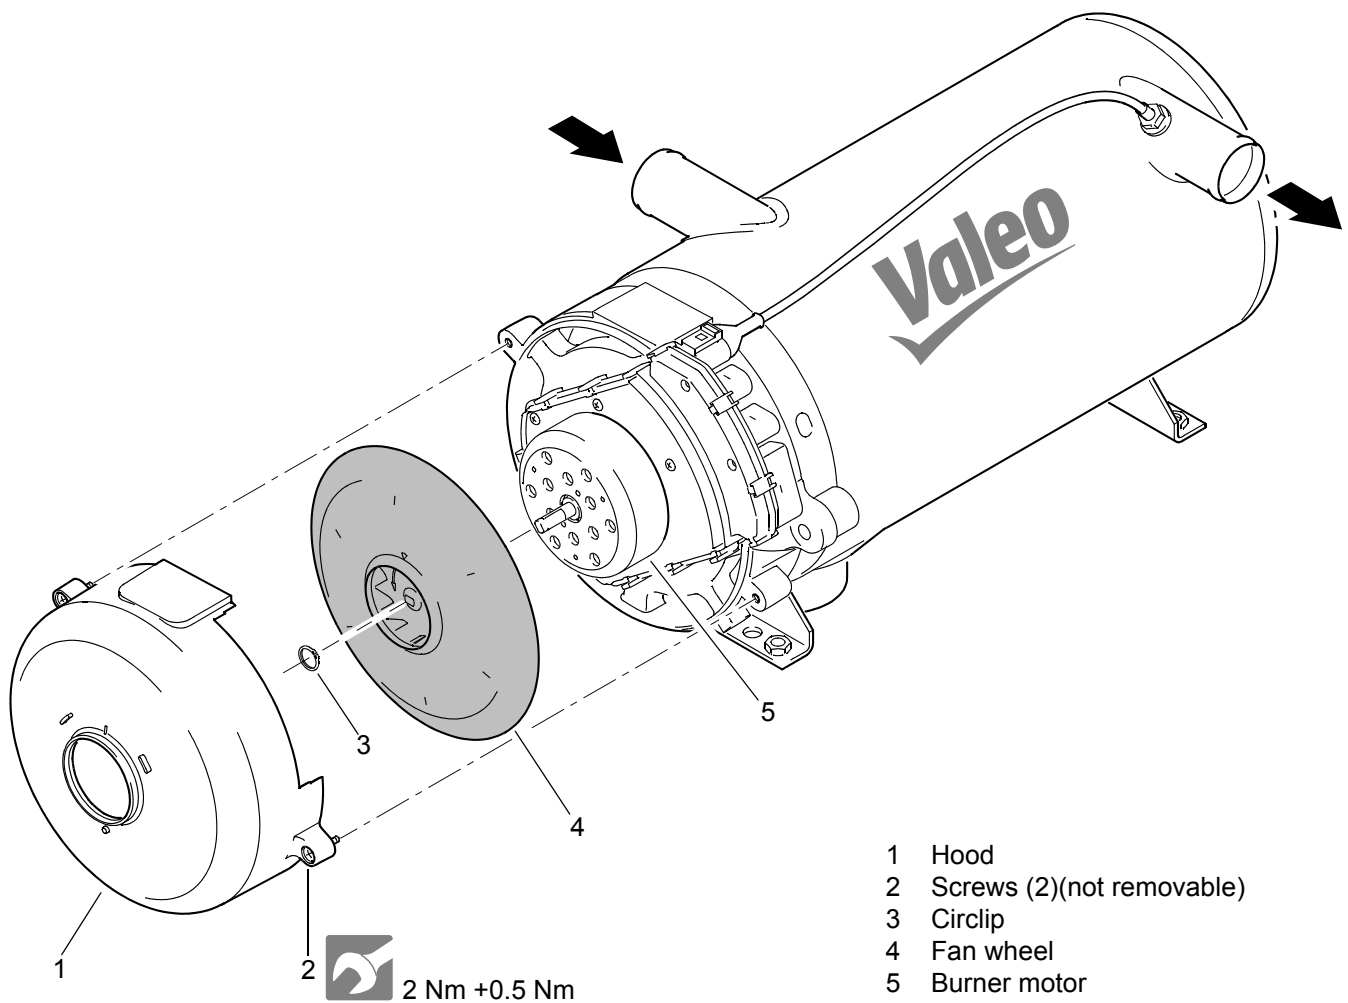

Fig. 803 Fan wheel removal and installation
2. Loosen screws (2, Fig. 803).
3. Remove hood (1).
1. Place hood (1, Fig. 803) in assembly position. Ensure centre alignment and proper fit.
2. Turn in the screws (2) and tighten them.
2. Remove the shaft circlip (3, Fig. 803) from the motor shaft using suitable pliers.
3. Remove fan wheel (4) from motor shaft.